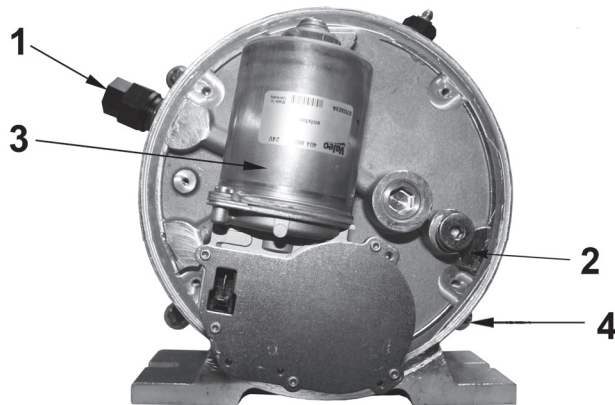

Fig. 3 Disassembled pump housing - view from the bottom
- The output of three pump elements (4) (Fig. 3) is combined by internal passages.
- The cam (7) will keep the vent valve (1) closed.